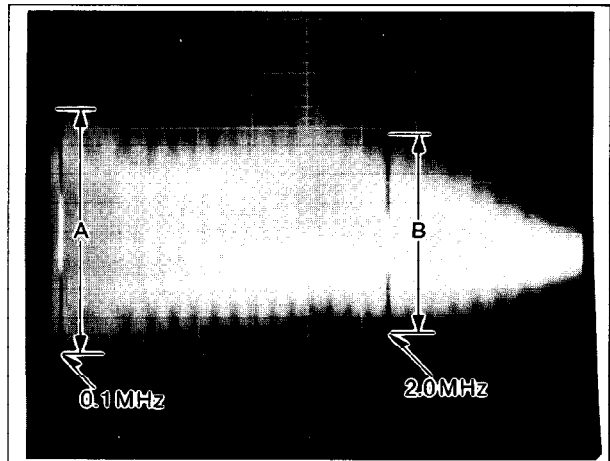

Fig. E13: LP MODE
6. Adjust VR3304 so that the ratio of 0.1MHz level and 2MHz level (A:B) to be  $0 \pm 1\text{dB}$  (90% ~ 110%) as shown in Fig.E13.